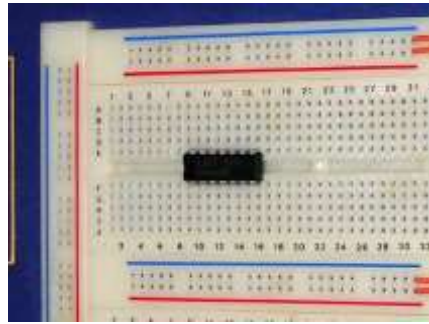

Figure 1.10: IC placement on the breadboard
1. Place the IC on the breadboard as shown in the Figure 1.10;